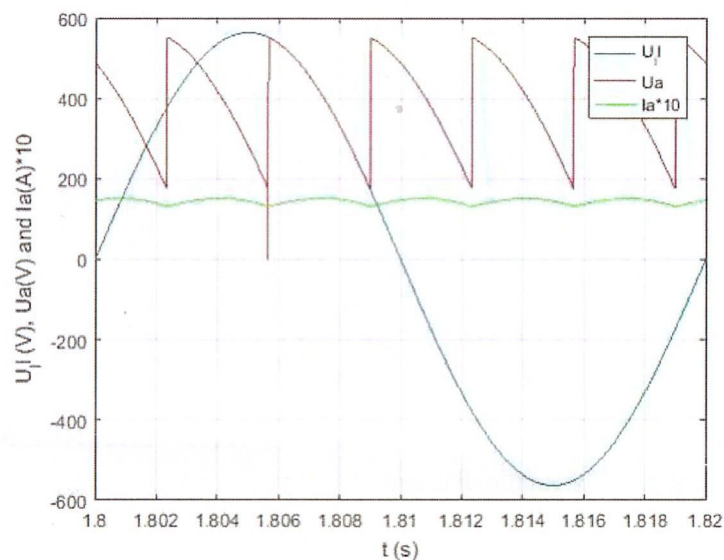

Fig. 1. Grid line-to-line voltage ( $U_{ll}$ ), DC voltage ( $U_a$ ) and DC current ( $I_a$ )
The grid line-to-line voltage ( $U_{ll}$ ), DC voltage ( $U_a$ ) and DC current ( $I_a$ ) are shown in Fig. 1
- What is the used rectifier topology according to the DC voltage waveform shown in Fig. 1?